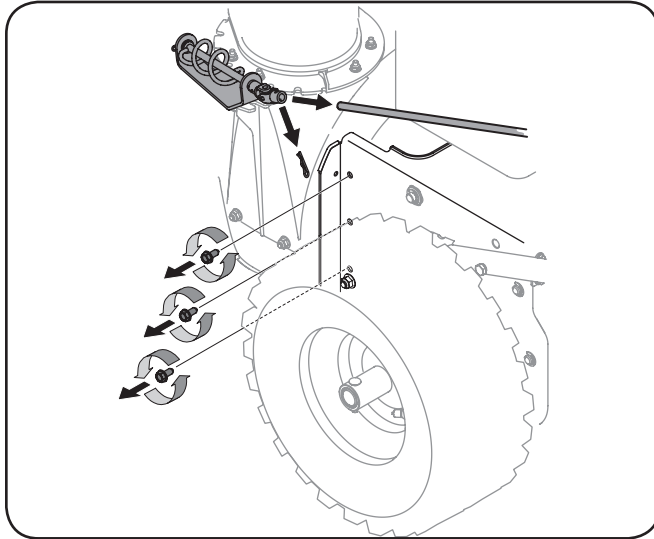

Figure 7-1
1. Remove the chute crank rod from the chute crank assembly by removing the hair pin clip shown in Figure 7-1. Move the chute crank rod away from the assembly as shown.
2. Remove three self-tap screws on both sides of the transmission housing as shown in Figure 7-1.
4. From both sides of the frame assembly, use a 1/2" wrench to remove the three hex tap screws securing the transmission frame to the auger housing assembly. Refer to Figure 7-1. Do not remove the lower hex flange lock nut on each side.